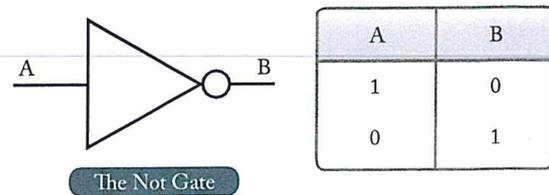

Figure 1-89. A NOT logic gate symbol and a NOT gate truth table.
To understand logic gates, truth tables are often used. A truth table gives all of the possibilities in binary terms for each gate containing a characteristic logic function. For example, a truth table for a NOT gate is illustrated in *Figure 1-89*. Any input (A) is NOT present at the output (B). This is simple, but it defines this logic situation. A tiny NOT gate circuit can be built using transistors that produce these results. In other words, a circuit can be built such that if voltage arrives at the gate, no voltage is output or vice-versa.